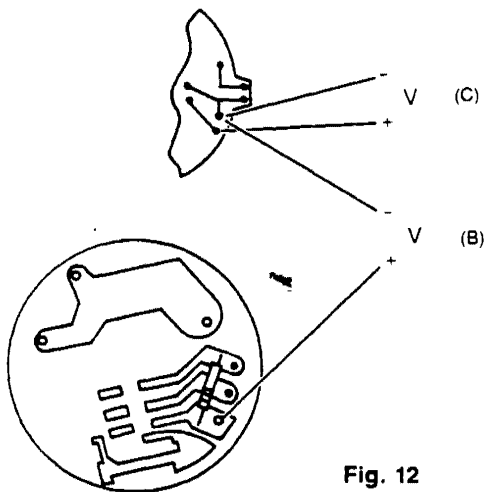

Fig. 12
- b. Set LCD meter to low voltage DC. Place negative lead of meter on black wire connection on top P.C. board. (Fig. 12) Place the positive lead to the blue connection on either the top or bottom P.C. board. The reading should be between 1.05 and 1.20 V DC. If reading is zero or erratic, check connections or replace drive assembly.